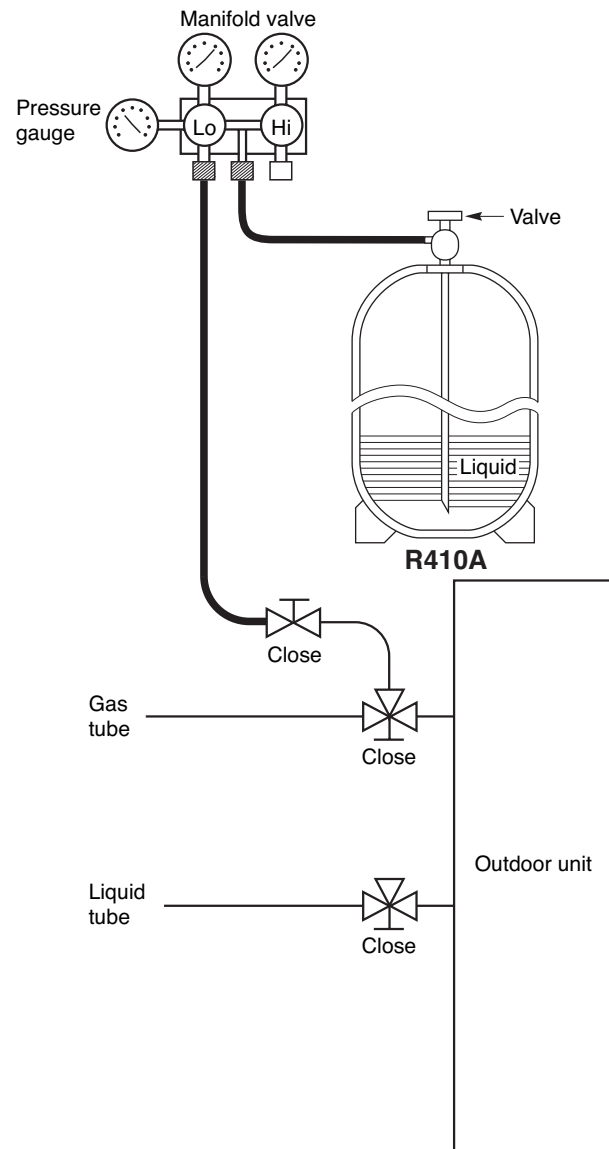

Fig. 10-5
- Charging additional refrigerant (calculated from the liquid tube length as shown on page 14, Amount of additional refrigerant charge) using the liquid tube service valve. (Fig. 10-5)